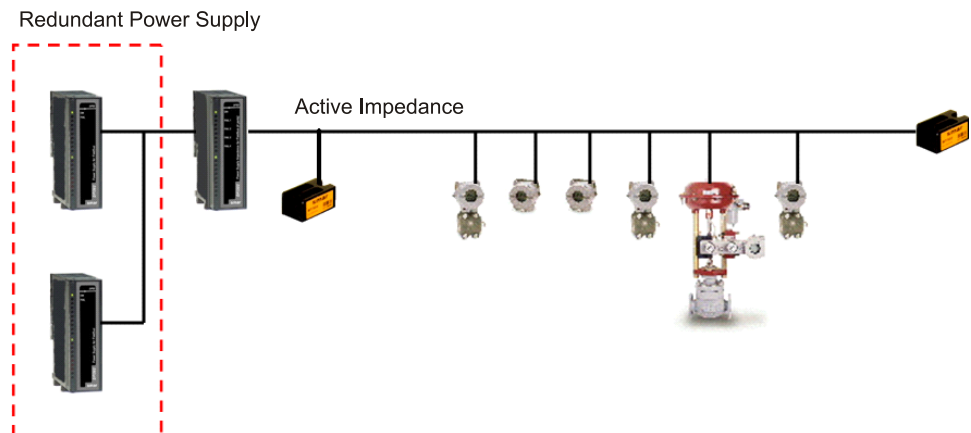

Figure 3.27 –Power Supply Redundancy
- a) Power supply redundancy, according to Figure 3.27.